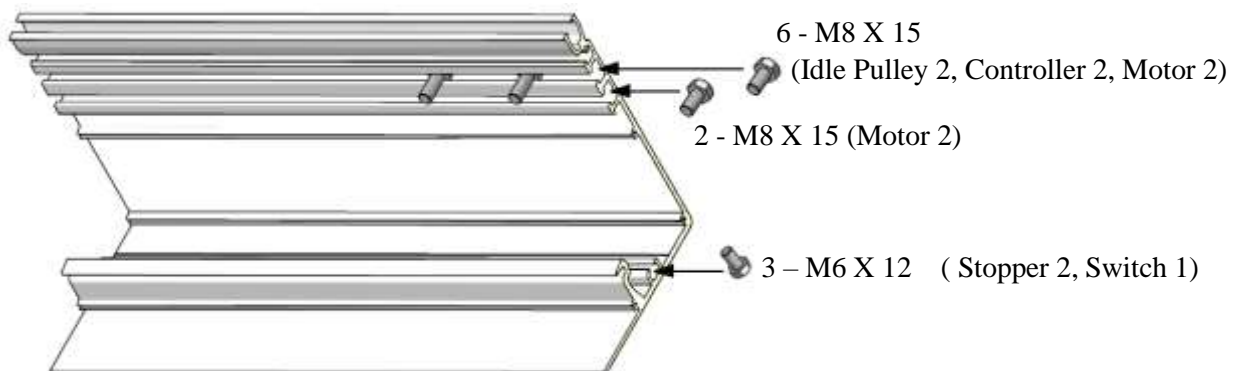

Fig. 3-2
- (1) After removing protection film (if any) , Inserting bolt to install Idle pulley, controller as per below figure 3-2 , if anything extra part like UPS & electric lock etc , you need to insert more bolt.
- (2) Fixing side cover on the right and left end.